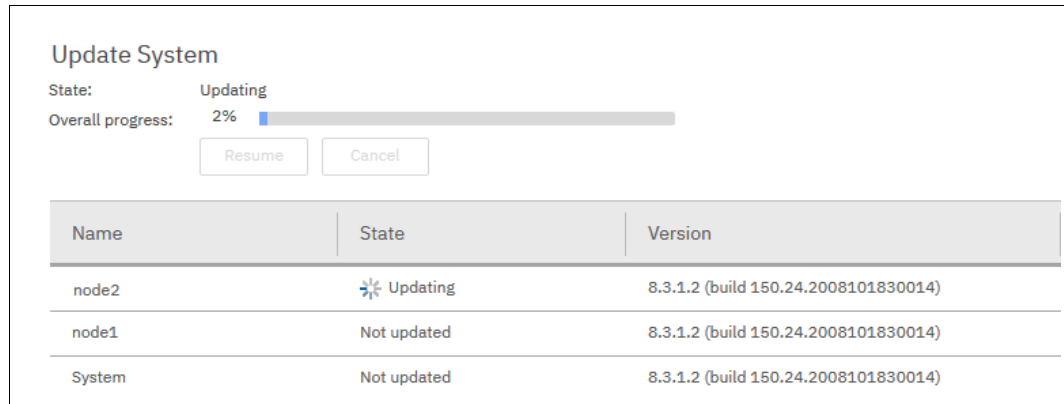

Figure 13-22 Resuming the update
7. Click **Resume** in the Update System window and the update proceeds, as shown in Figure 13-22 on page 819.